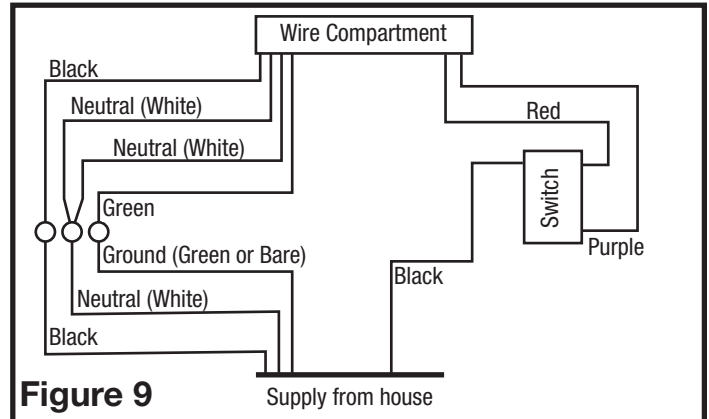

Figure 9
3. Secure the electrical wires to the housing with an approved electrical connector. For two speed fans wired for continuous ventilation, connect the White wires of the fan to the White (Neutral) wire from the power source. Connect the ground wire from the house to the Green wire from the fan housing. Connect the Black wire of the fan to the Black wire (Hot) from the power source. The fan will operate on low speed continuously and boost to high speed when motion is detected. Using a properly grounded standard duplex toggle switch (such as Leviton 5224-2W, not included) connect the black wire from the supply to one side of the top and bottom switch. Connect the red wire (light) from the fan housing to the other side of the top switch and connect the purple wire (night light) from the fan housing to the other side of the bottom switch. A manual override switch (not included) can be used to provide a manual fan Off function (Figure 9).